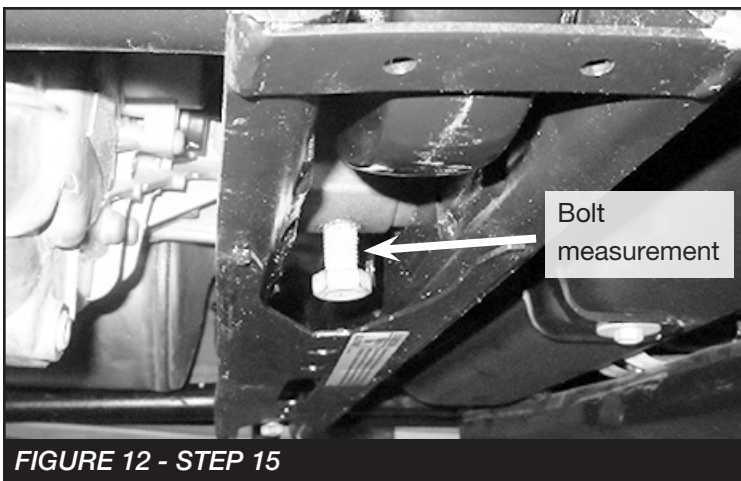

FIGURE 12 - STEP 15
15. Use **FIGURE BELOW** for torsion key bolt pre-adjustment. These measurements will be from the length of the thread left between the block and the bolt head. **NOTE: This is a starting point more adjustment may be required once vehicle is on the ground. FIGURE 12.** Repeat steps on the opposite side.